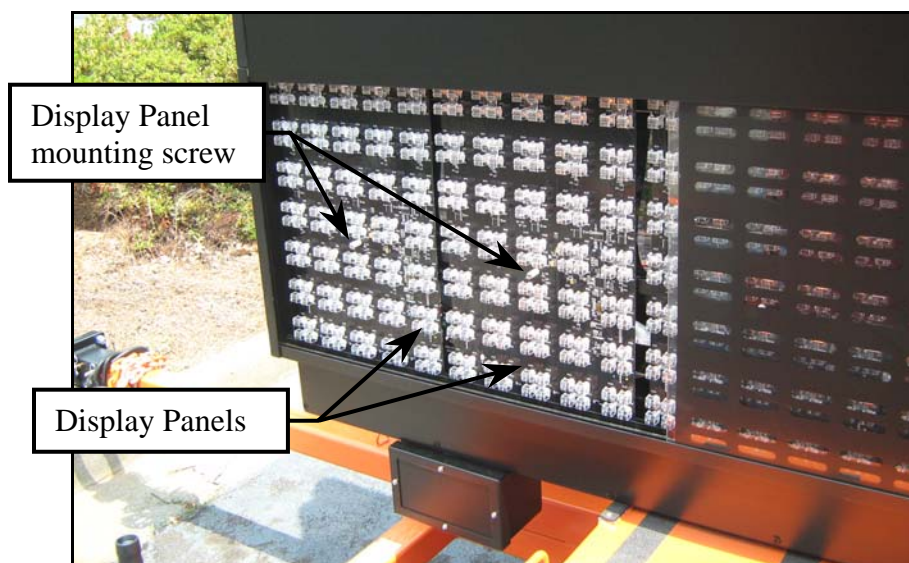

Figure 3-7 Display Panels in front of Equipment Tray
- Remove center screw securing the Display Panel. (see Fig. 3-7)